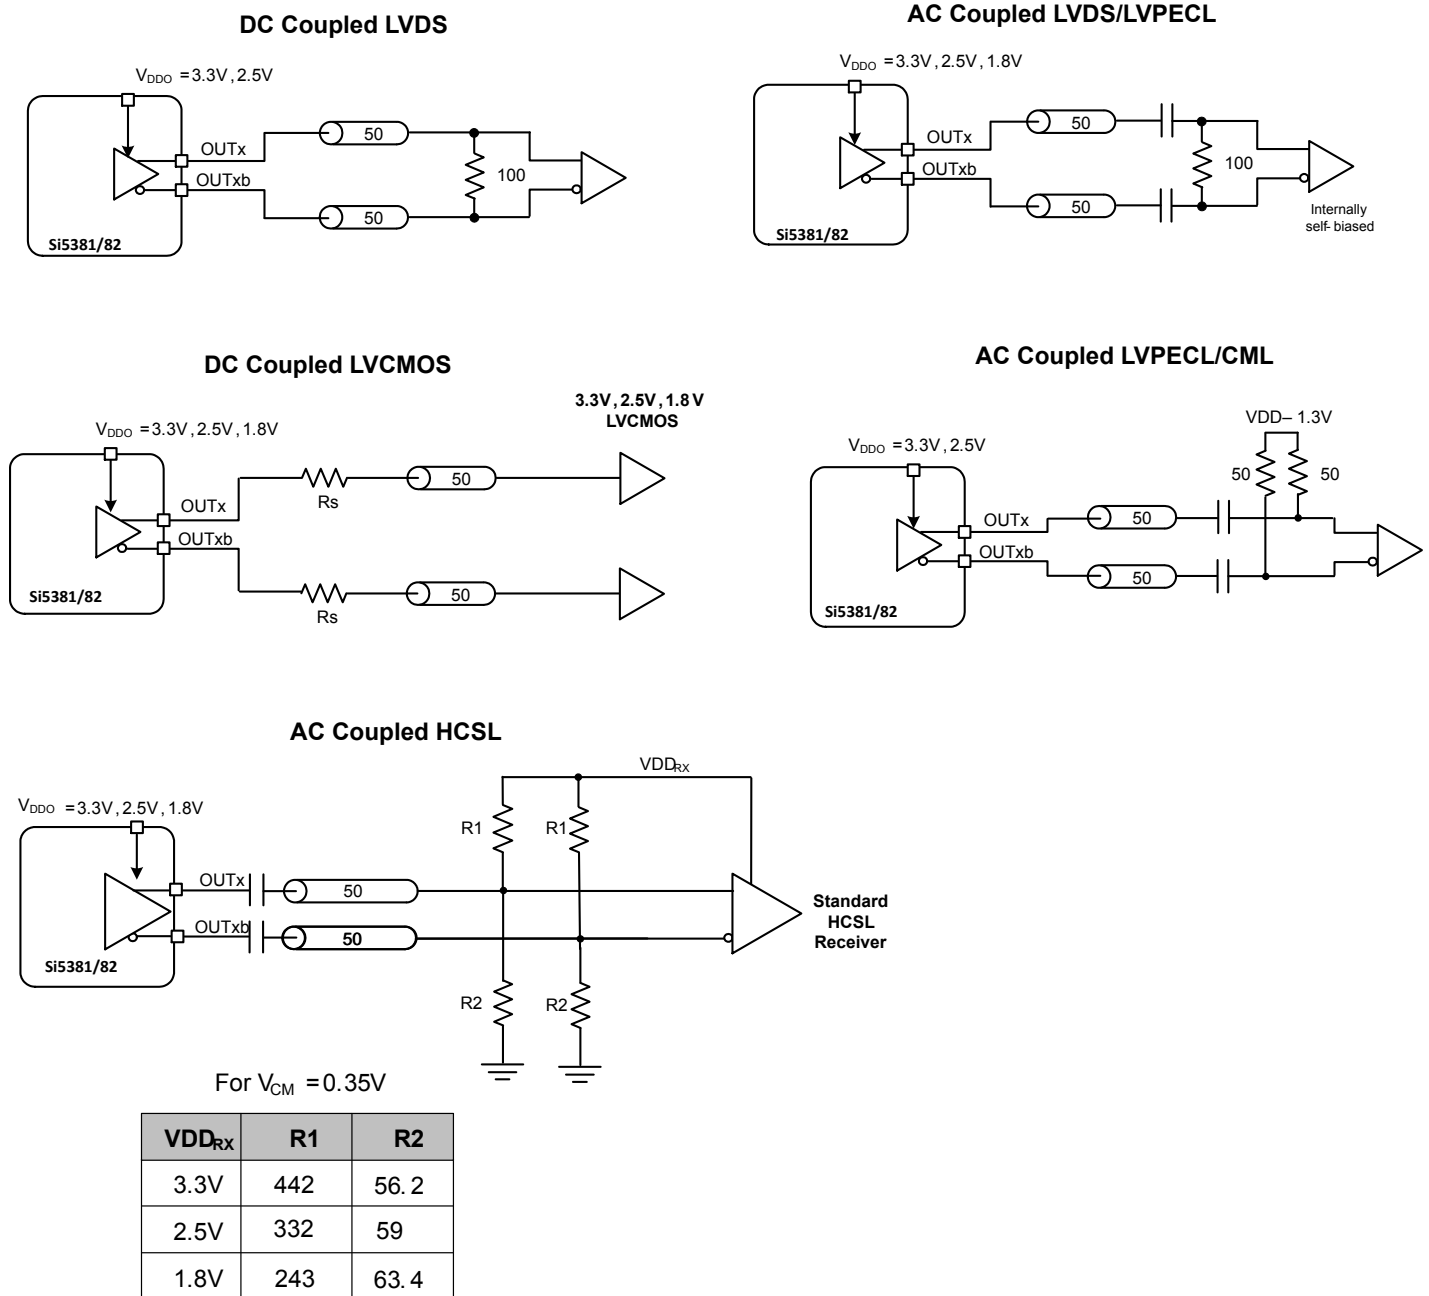

Figure 4.2. Supported Differential Output Terminations
2. Creates HCSL compatible signals, see HCSL receiver biasing network in Figure 4.2 Supported Differential Output Terminations on page 42.